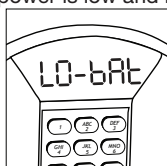

Figure 2
**LO-bAT**: Battery power is low and batteries should be replaced (Figure 2).